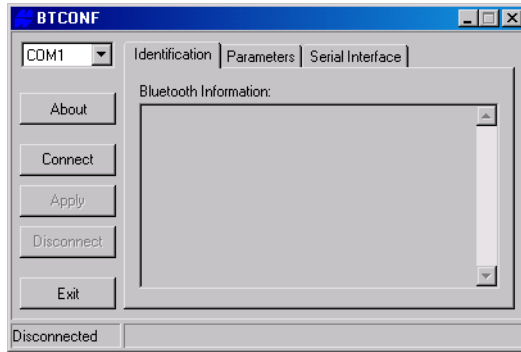

Figure 2-27. Bluetooth Module Configuration Main Screen
2. Run the Bluetooth module configuration program (Btconf.exe) (Figure 2-27).